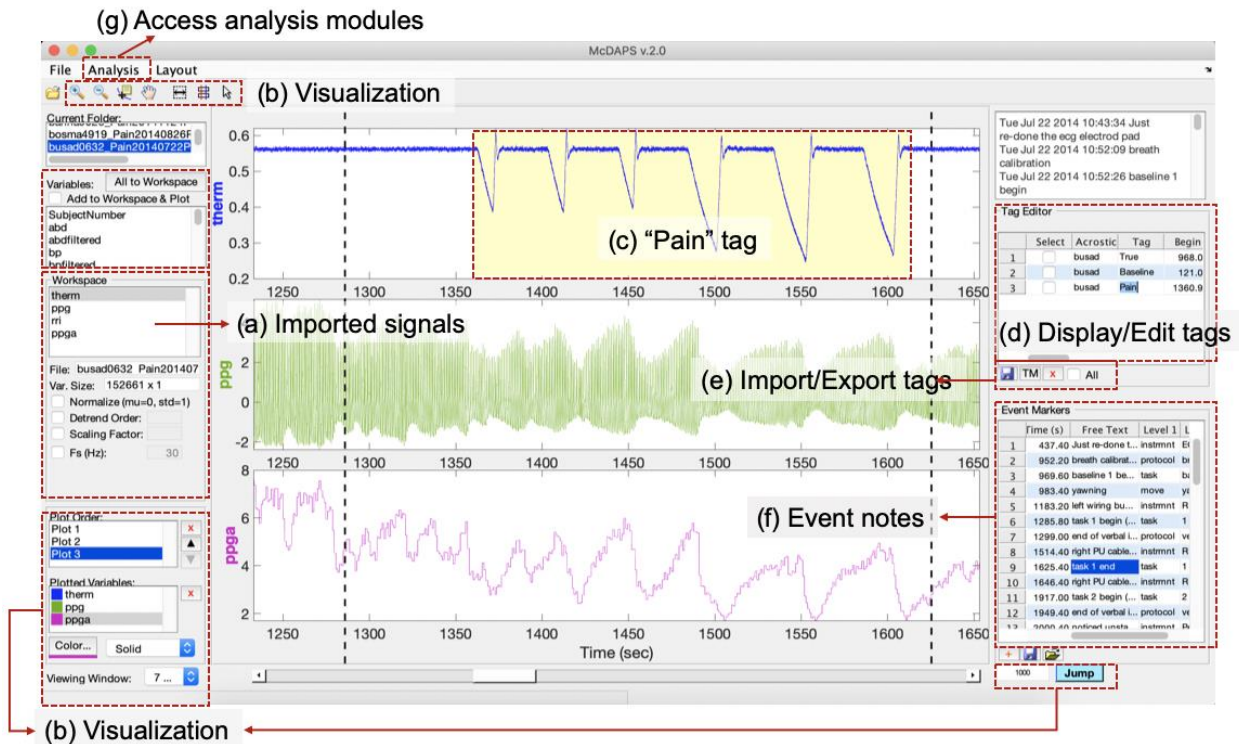

Figure 1-1. A snapshot of Data Browser visualizes the signals from the same experiment: (1) heat stimulus, (2) raw PPG, (3) beat-to-beat PPGa
1. On the top left corner of the main window (Fig. 1-1), click Load Data icon () in the toolbar or go to menu File > Load Data..